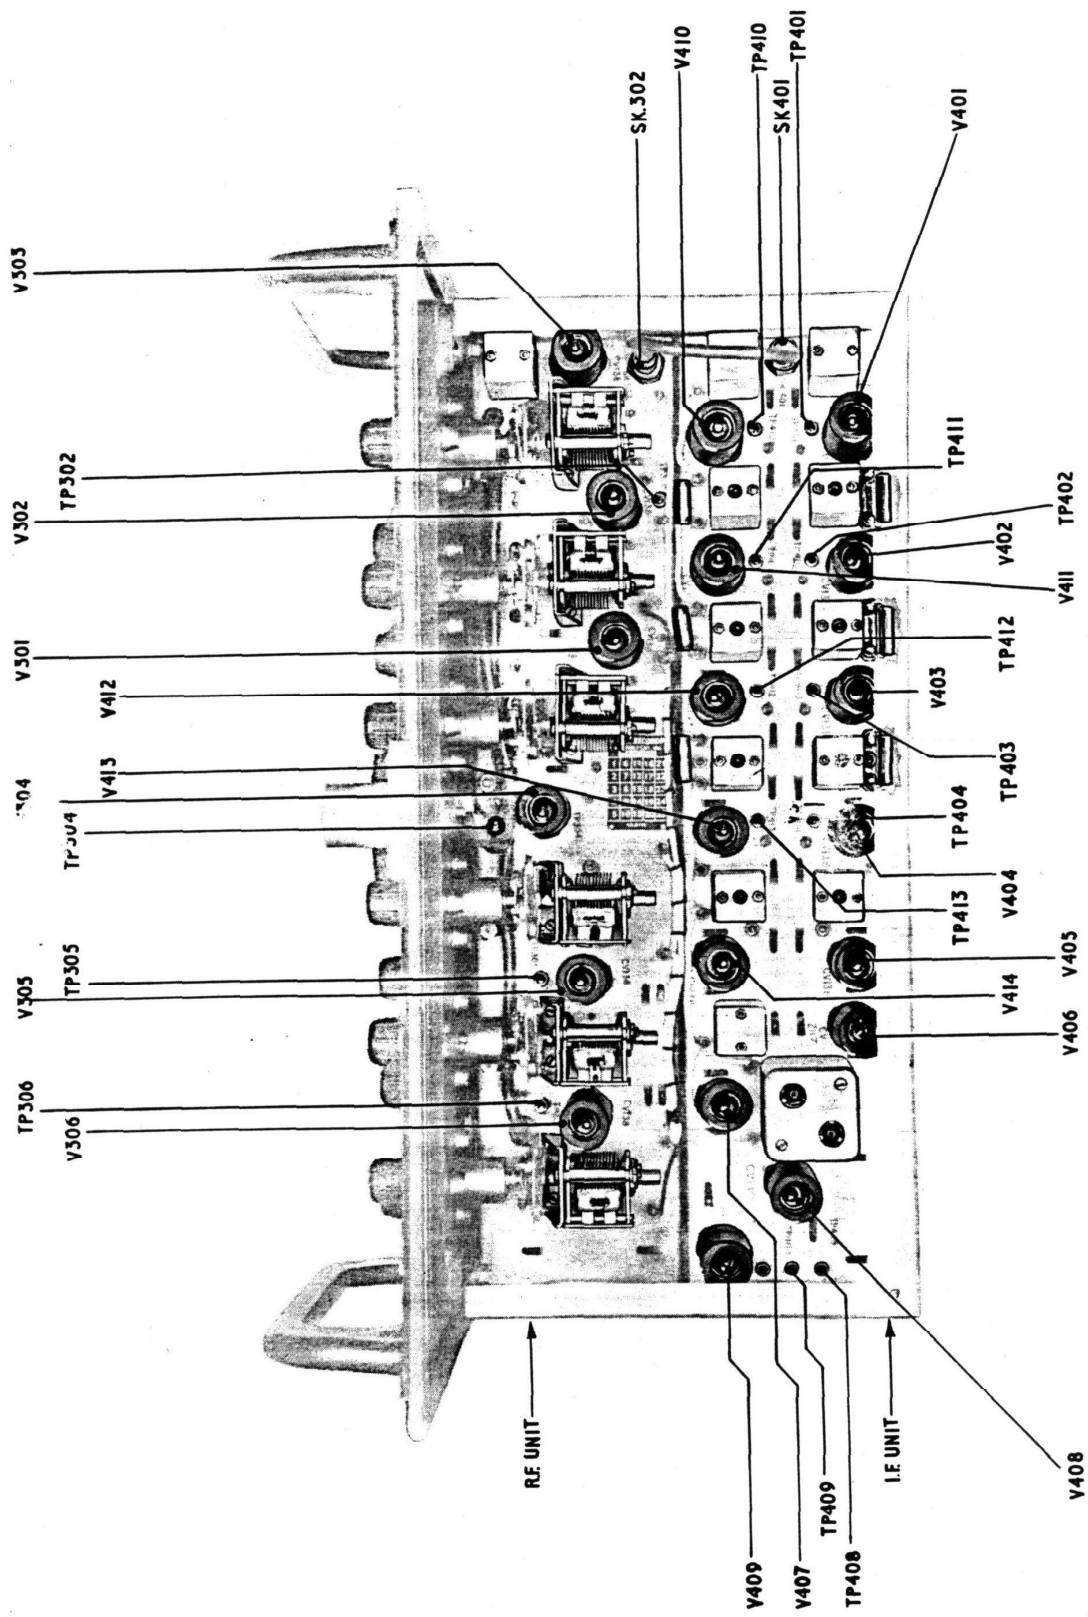

FIG. 23 R222 RF AND IF UNITS
- (1) Before opening the Receiver, check that the fuses in the power supply unit are not faulty, and that all connectors are in position, with the locking rings tightened firmly by hand.
- (2) Test for HT supply using the meter switch on the front panel of the unit.
- (3) If the fault appears to be a power failure in the equipment, it is possible that the fault lies in one of the fan connectors since the mains supply to the SUR is interlocked with the mains supply to the fans in both the Receiver and its power supply unit. The connectors can be checked for continuity using the low ohms range of the Avometer. The connectors should be gently flexed near the ends while testing, in case of intermittent contact.
- (4) If the fault persists switch off the power at the SUR No. 22, undo and remove the six white painted nuts around the edge of the receiver front panel, disconnect the mains lead and withdraw the equipment from the outer case. Remove the remaining sixteen nuts and withdraw the front panel from the inner case.
- (5) Reconnect the mains connectors, switch on the mains supply at the SUR No. 22, and check potentials at the various test points shown in Fig. 23 and Table 11.
- (6) The faulty circuit, if not already known, can also be found by following the tuning instructions until a stage is reached where normal results are no longer obtained. The valve in this stage may then be changed, especially if potentials at the test point vary considerably from the figures given.